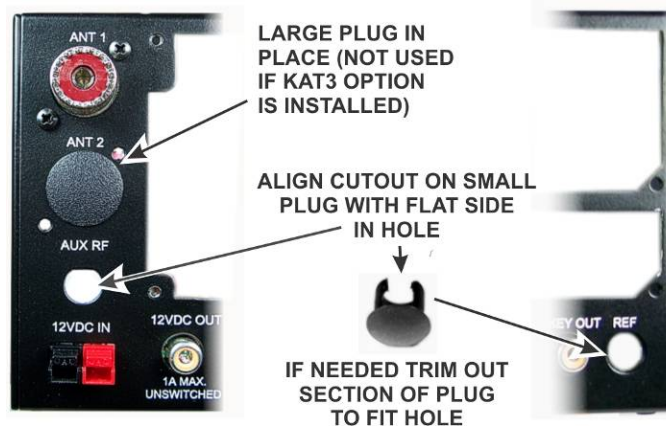

Figure 48. Installing Rear Panel Hole Plugs.
- Install hole plugs in the unused rear panel connector openings as shown in Figure 48.